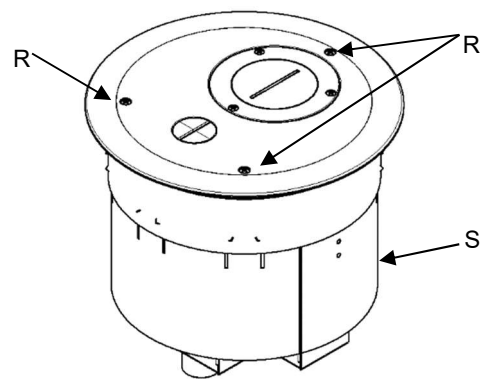

Fig. 10
2. Remove screws (R) and cover from can assembly (S). See Fig. 10.